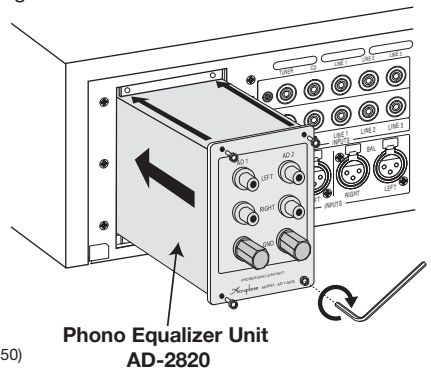

Fig. 2
- ❸ Slide the AD-2850 into the preamplifier along the two guide rails on both sides (see Fig. 2). When you feel a certain resistance, give the AD-2850 a slight push until the connector is fully plugged in. When the AD-2850 is flush with the rear panel, it is inserted correctly.
- ❹ Use the four screws to fasten the AD-2850 by turning the screws clockwise.